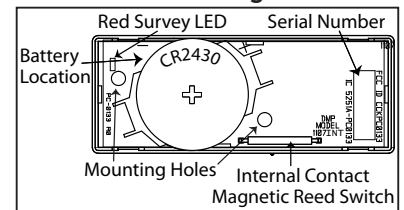

Figure 2: 1107 PCB Layout
3. Place the 3V coin cell lithium battery in the holder positive side up as shown in Figure 2 and press into place.